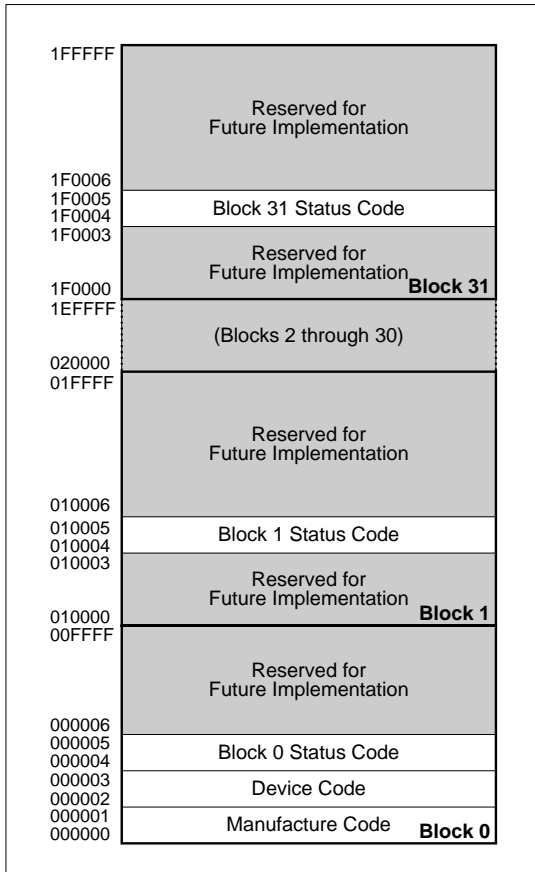

Fig. 2 Device Identifier Code Memory Map
The read identifier codes operation outputs the manufacture code, device code, block status codes for each block (see Fig. 2). Using the manufacture and device codes, the system CPU can automatically match the device with its proper algorithms. The block status codes identify locked or unlocked block setting and erase completed or erase uncompleted condition.
| Read Identifier Codes | 9 | VIH | VIL | VIL | VIL | VIH | See Fig. 2 | X | (NOTE 5) | High Z |
IA = Identifier code address : see **Fig. 2**.
The identifier code operation is initiated by writing the Read Identifier Codes command. Following the command write, read cycles from addresses shown in **Fig. 2** retrieve the manufacture, device, block lock configuration and block erase status (see **Table 4** for identifier code values). To terminate the operation, write another valid command. Like the Read Array command, the Read Identifier Codes command functions independently of the VPP voltage and RP# must be VIH. Following the Read Identifier Codes command, the following information can be read :
1. X selects the specific block status code to be read. See **Fig. 2** for the device identifier code memory map.